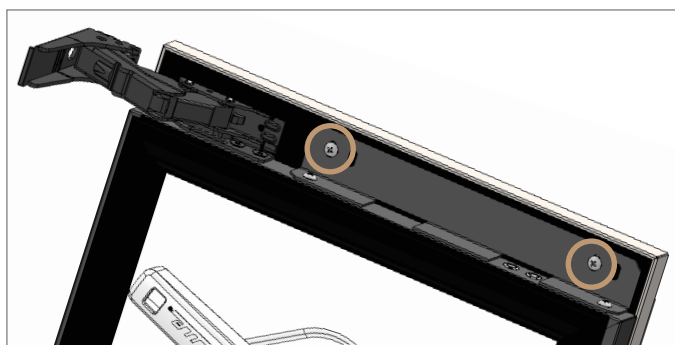

FIG. 1. Spacer / top door bracket screw locations.
2. Loosen the door skin bracket and spacer screws. See figs. 1–3